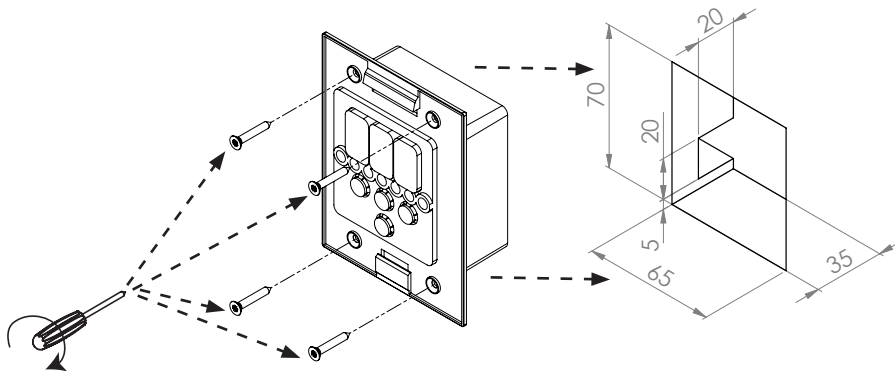
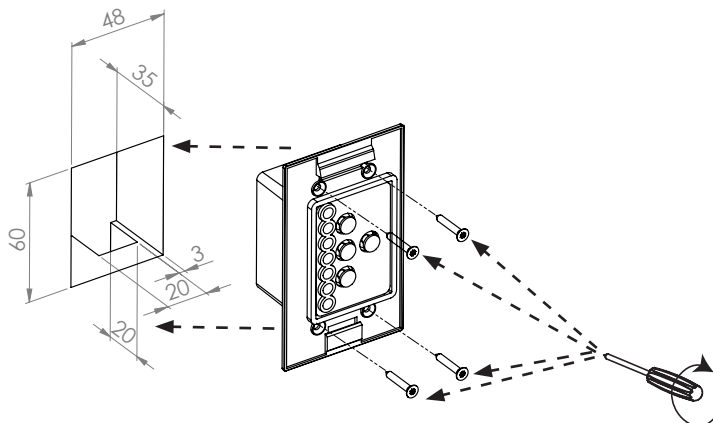

Fig.5 Installing the Pro D control panel
Fig.6 Installing the control panel additional output (optional)
1. Cut out the 70 x 65 or 60 x 48 mm recess using a jigsaw, for example (see **Fig.5** and **Fig.6**).